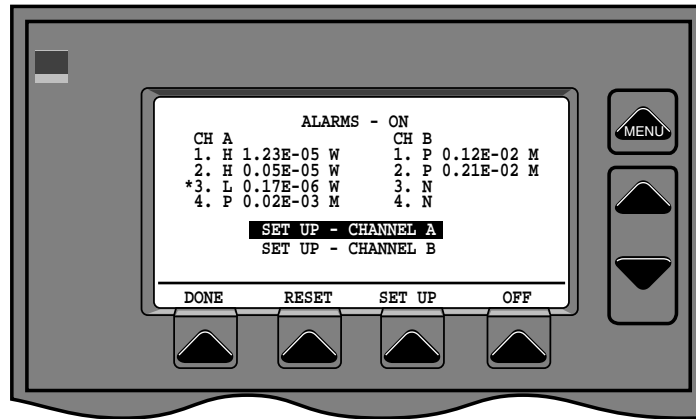

Fig.14 Alarms Control Screen
The Alarms Control Screen (Figure 14) displays the alarm conditions for each channel. Alarm numbers 1 through 4 for each channel are shown. Alarm types are: high (H), power/energy exceeds this value; low (L), power/energy goes below this value; position (P), position from the center exceeds this value; none (N), alarm is not active.